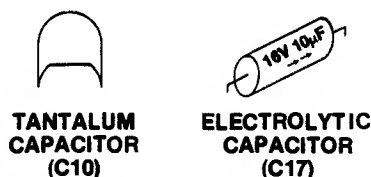

Fig. 3-6. Two types of capacitors found on Commodore 64 main circuit boards.
In addition to chips, your motherboard has mounted on it a number of devices called capacitors. Fig. 3-6 shows what some of the capacitors look like so you can pick them out on your motherboard. Capacitors come in several varieties: (1) Electrolytic, (2) Tantalum, (3) Film, and (4) Variable. The first two are found on the Commodore 64 boards.